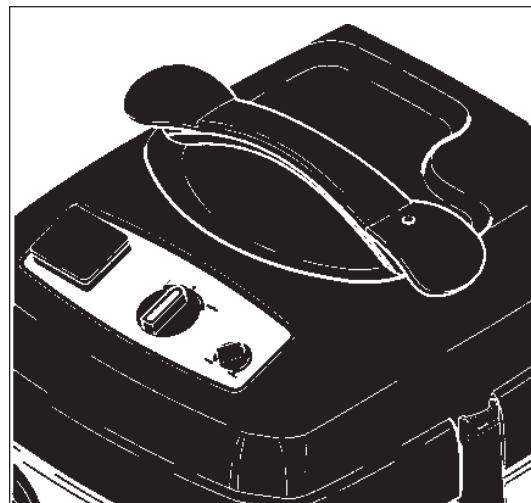

Figure 8
2. Wind up the power cord around the handle (Figure 8).